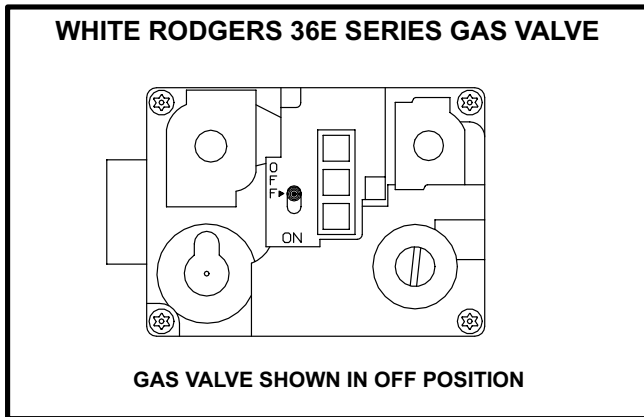

FIGURE 2
Gas Valve Operation (Figure 2 and 3)
- 6 - *White Rodgers 36E Gas Valve* - Switch gas valve lever to **OFF**. See figure 2.